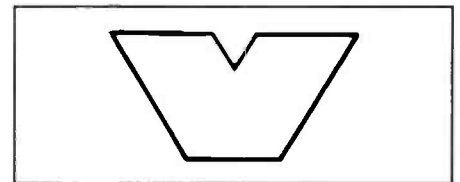

Figure 2. What does this symbol stand for?
In some cases, the standby circuits are not included on the TV schematic. You can, however, easily spot the power relay of the standby circuits on the TV chassis. With the TV on the service bench, trace the switch contact wires back to the power line to determine which contacts must be shorted in order to bypass the relay. If there are only two switched contacts on the relay, clip a test lead across the switched contacts to see if ac voltage is applied to the TV chassis (Figure 2). You know that there are problems in the standby circuits if bypassing this relay brings the set to life.
Figure 2. With the TV chassis on the service bench, bypass the relay by clipping a test lead across the relay contacts to determine if the TV chassis is functioning.
- What does the symbol in Figure 2 stand for?